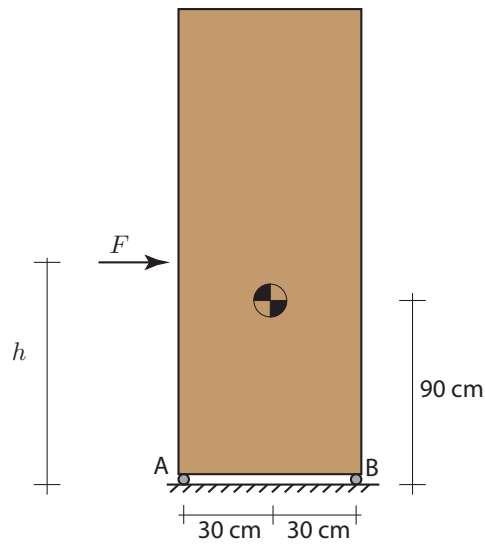

Figure 18: Problem 18.
18. The cabinet in Fig. 18 weighs 500 N with center of gravity as show. The cabinet is supported on two casters. Caster A is unlocked and free to roll. Caster B is locked and has a static coefficient of friction with the floor of $\mu_0 = 0.3$. What force F is required to slide the cabinet? Does the force depend on the height h where it is applied? If h is too large the cabinet can tip over. Determine this height.